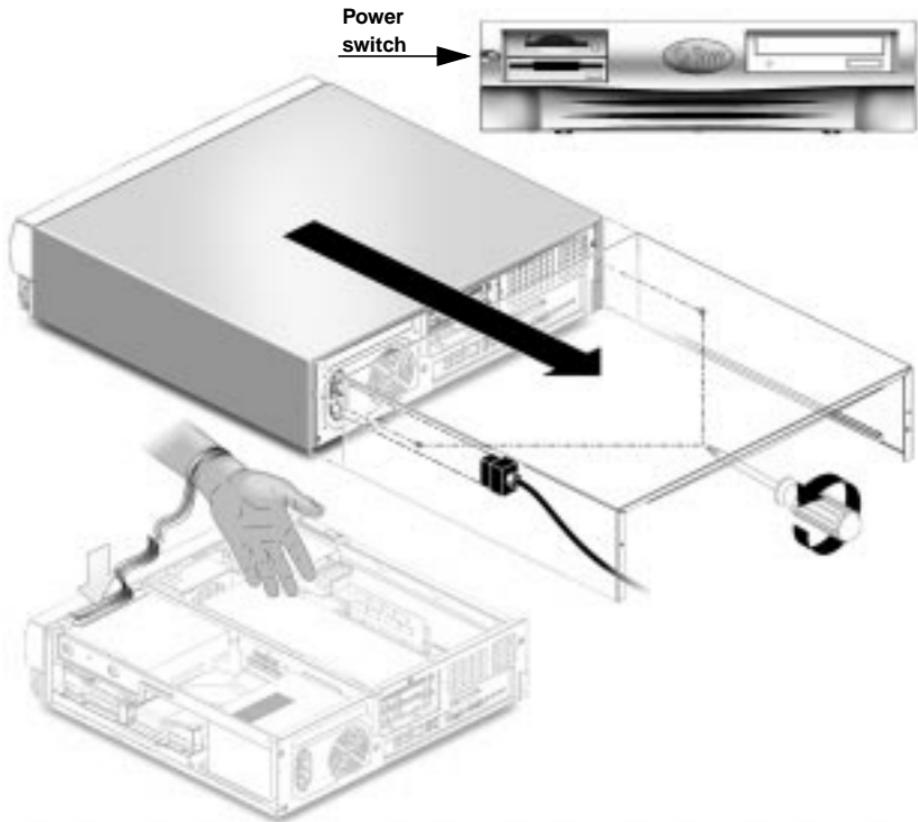

Figure 1-2 Preparing for DIMM Installation
- a. Press the power switch and immediately release it (Figure 1-2).
- 4. Slide the cover back to the end of the system chassis and lift the cover off (Figure 1-2).**
3. Attach the copper foil end of the wrist strap to the system chassis to provide a ground for electrostatic discharge (Figure 1-2).